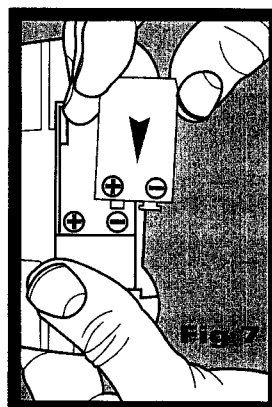

Fig 7
- Insert a fresh, new 9-VOLT ALKALINE BATTERY with the polarity (+/-) as shown on the bottom of battery compartment. (Fig. 7)